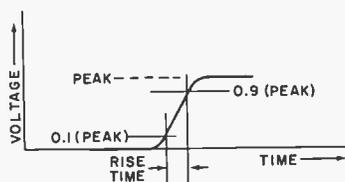

Fig. 10. Diagram shows how rise time of a wave is defined.
**Risetime.** Those of us who do a lot of work on digital circuits are particularly interested in the risetime of a scope. As illustrated in Fig. 10, the risetime of a pulse is the time it takes for the leading edge of a square wave to rise from 10% to 90% of its peak value. If, for example, it is necessary to measure within 3% a waveform risetime known to be in the 0.04- $\mu$ s range, an oscilloscope with a risetime of not more than 0.01  $\mu$ s would be required.